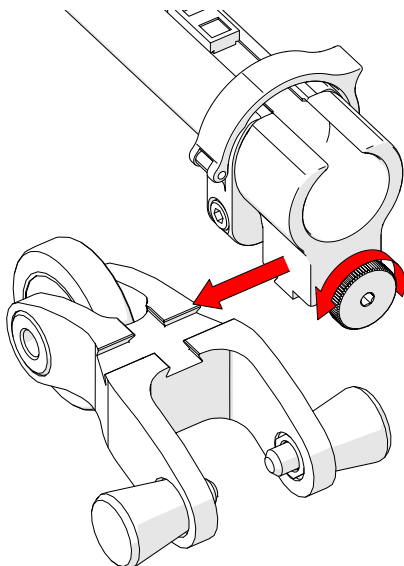

Fig. 31 - Loosen and slide on
1. Loosen the knob on the cable management dovetail mount. Slide the mount onto the dovetail link (*Fig. 31*).